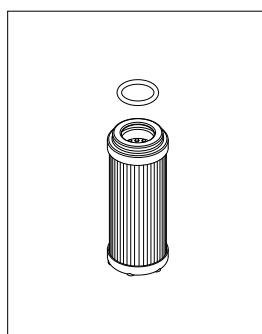

fig. 13
- (Fig. 13) Insert the O-ring in the filter element cap